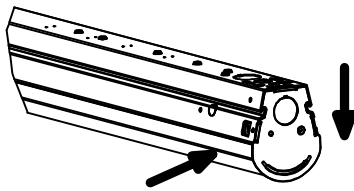
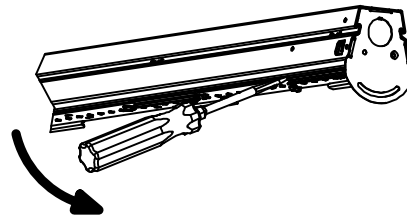

FIGURE 5: REMOVING LENS
FIGURE 6: REMOVING THE 4' LED BOARD
To remove lens from housing, push side of lens until the opposite side of lens protrudes from housing. Then pull protruding lens downward until removed as shown in Figure 5. This should be applied down the length of the fixture. To remove the LED board, start on one end of housing using a flat head screw driver in the slots provided as shown in Figure 6. IMPORTANT: Make sure to apply a force parallel to board to reduce the risk of damaging the board.
- 2) Remove joining end caps by spreading channel open and sliding endcap off. Then remove KOs and secure the endcaps together with customer supplied (2) #8 screws and (1) 1/2" chase nipple to create joiner as shown in FIG 6.